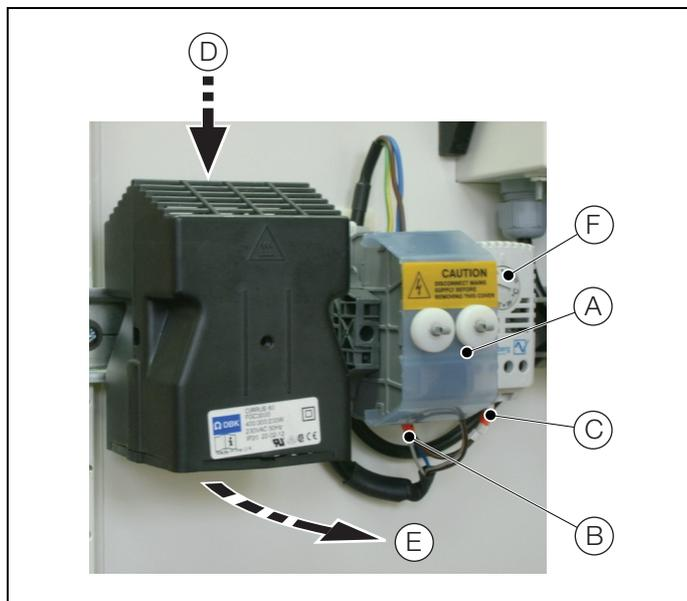

Fig. 5.4 Heater replacement
3. Referring to Fig. 5.4:
- a. Remove the door terminal rail protective cover (A).
- b. Disconnect blue/grey heater wire 'N' (B) from terminal rail terminal 44.
- c. Disconnect brown/grey heater wire 'L' (C) from thermostat terminal 1.
- d. Press down firmly on the top of the heater (D) and simultaneously pull the bottom of the heater away from the DIN rail (E) and remove the heater from the DIN rail.
- f. Reconnect brown/grey heater wire 'L' (C) to thermostat terminal 1.
- g. Reconnect blue/grey heater wire 'N' (B) to terminal rail terminal 44.
- h. Refit the door terminal rail protective cover (A).
- j. Rotate thermostat temperature selector (F) clockwise to maximum.